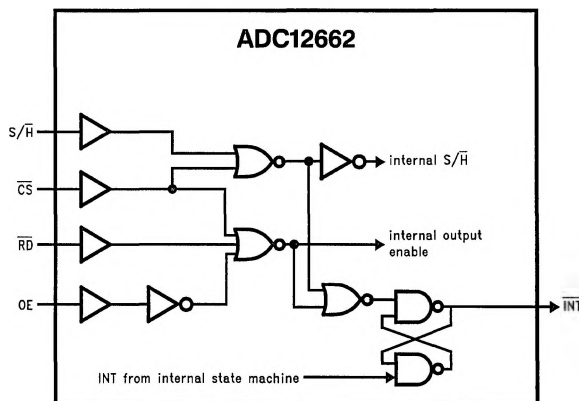

FIGURE 6. ADC Control Logic
- OE** This is the active high Output Enable control input. This pin can be thought of as an inverted version of the \overline{RD} input (see Figure 6). Data output pins DB0–DB11 are TRI-STATE when OE is low. Data appears on DB0–DB11 only when OE is high and \overline{CS} and \overline{RD} are both low. This pin can be tied high.
In order to clearly show the relationship between S/H, \overline{CS} , \overline{RD} , and OE, the control logic decoding section of the ADC12662 is shown in *Figure 6*.